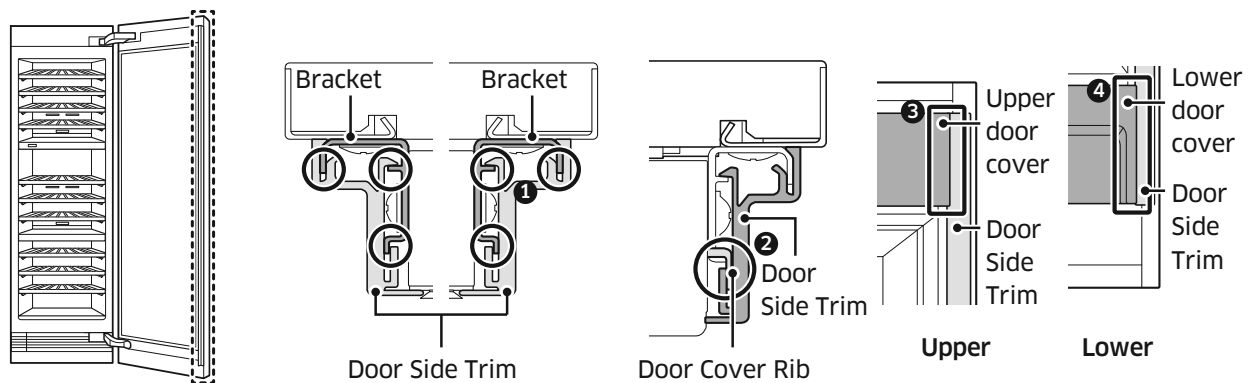

Figure 1
- Refer to figure 1-① and secure the door side trim to the bracket. Make sure the trim is properly seated.